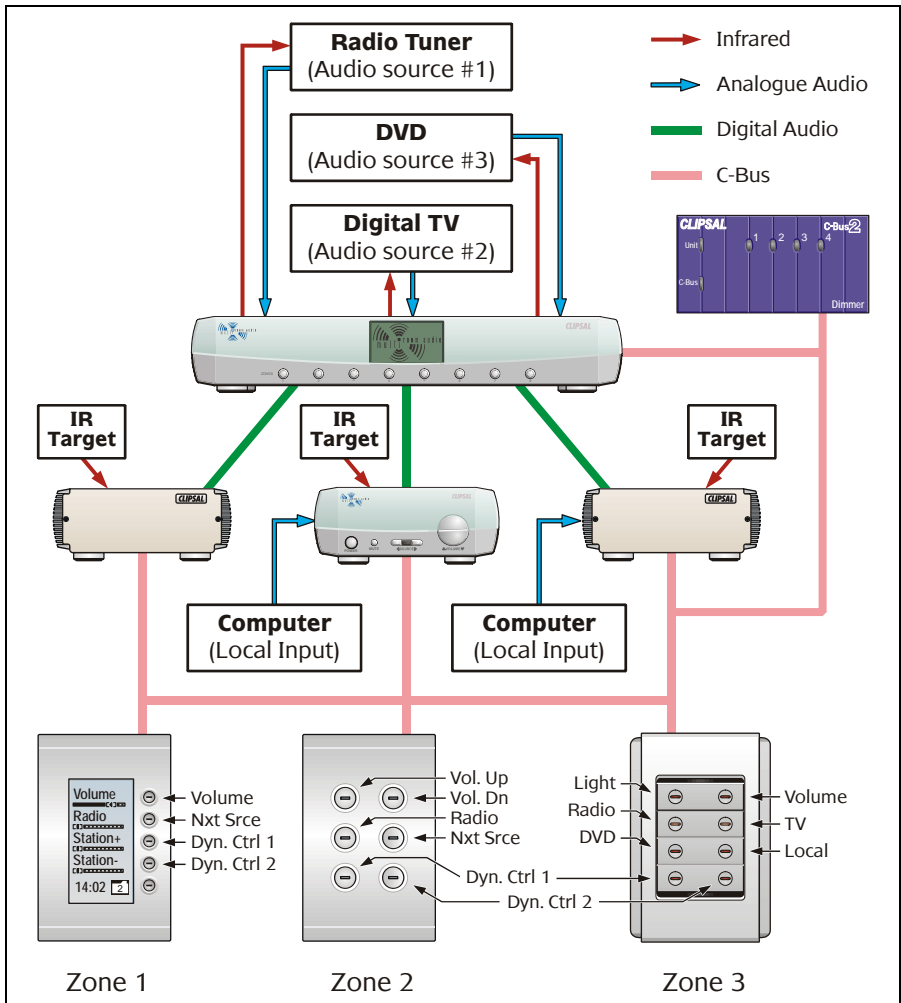
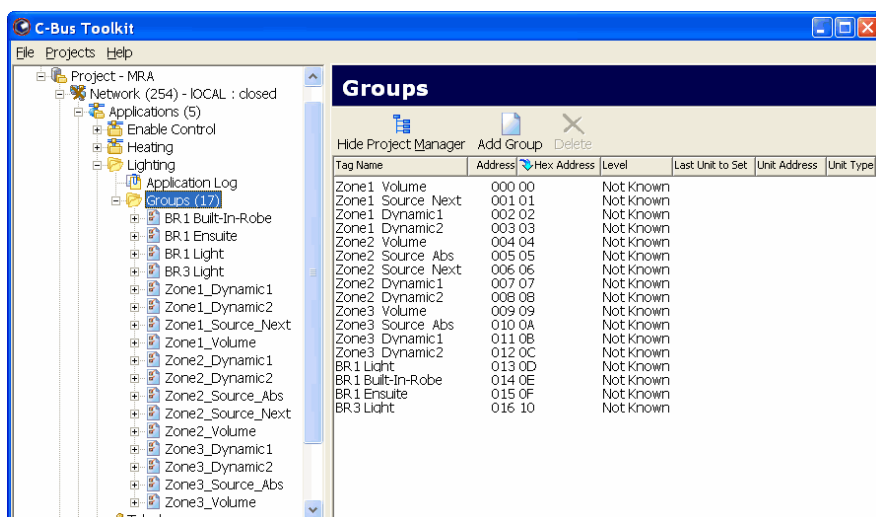

Figure 19 – Example system to be configured by software
Figure 20 – Group Addresses used in the example MRA system
It is highly recommended that you complete a C-Bus Training Course before configuring a Clipsal Multi Room Audio system. Sections 10.1 and 10.2 take you through the configuration process. These sections assume you are familiar with the C-Bus Toolkit software. They use the example system shown in Figure 19. This system consists of three zones and uses the following units (all on the same C-Bus network):
It is suggested you use clearly identifiable tag names/descriptions when you create the Group Addresses. Suitable Groups for the example MRA system in Figure 19 are shown in Figure 20.
- 8) Configure the Amplifiers. In a typical MRA system such as in Figure 19 the default settings on the Audio Levels and Zoning tabs are sufficient. The Remote tab (Desktop Amplifier) is configured by default to use the remote control supplied with the Desktop Amplifier. The C-Bus Control tab must be configured in order to control an Amplifier from a C-Bus wall switch. Select the Application first. Then specify which Group Addresses will be used to control the Volume, Bass and Treble, the Next, Previous and Absolute Sources, and the Dynamic controls. Use the Group Addresses you created in Step 3.